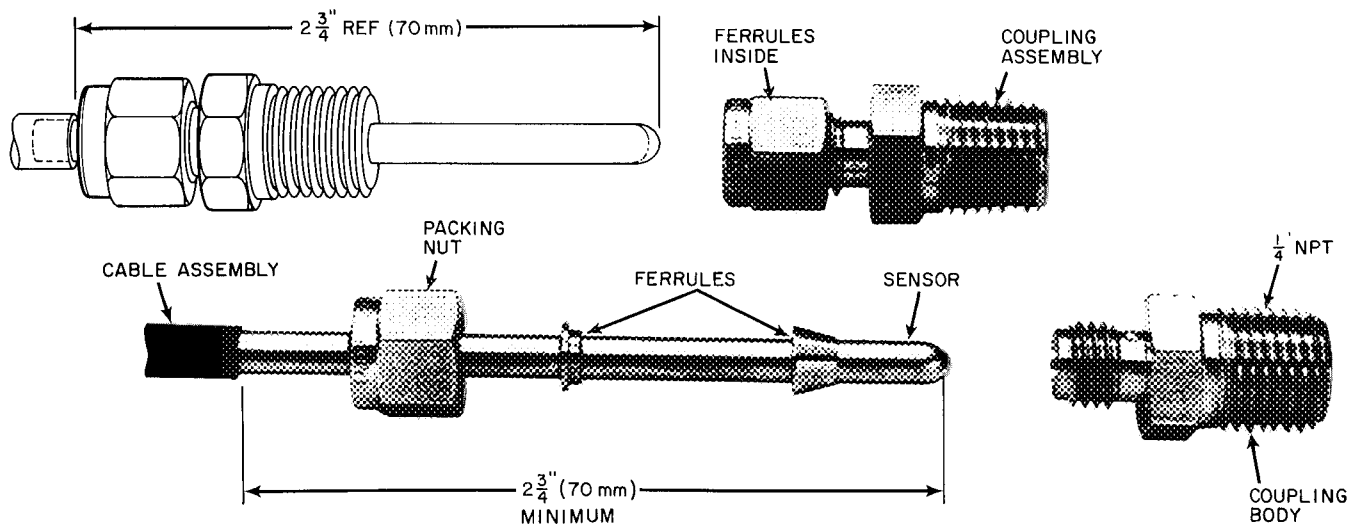

Fig. 14 – Thermistor (Compressor and Cooler)
Cooler Leaving Water Thermistor (T1) — located in leaving water nozzle. The probe is immersed directly in the water. All thermistor connections are made through a 1/4-in. coupling. See Fig. 14. Actual location is shown in Fig. 11 and 13.
Proceed as follows (see Fig. 14):
2. Apply pipe sealant to 1/4-in. NPT threads on replacement coupling and install in place of original. Do not use packing nut to tighten coupling. This damages ferrules (see Fig. 14).